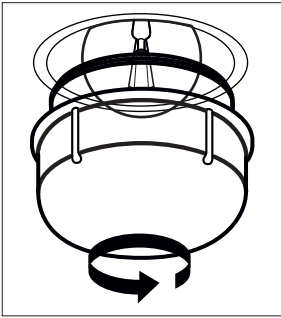

Figure 16
2. Remove the glass protection by turning it counterclockwise (See figure 16). Using plastic gloves may help you if you have difficulty in rotating it.